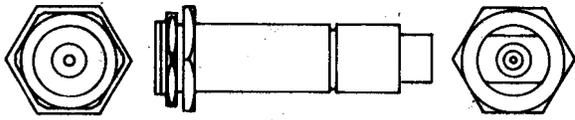

Fig. 7—507A Jack
2.07 507A: The 507A (Fig. 7) is a coaxial-type jack. This jack has coaxially arranged inner and outer contacts. One end is used with the 358A and similar-type plugs. The other end is designed for a solderless shield connection to the connection cable by means of a sleeve which is furnished as a loose part with the jack. When the jack is installed and the inner conductor of cable is soldered to the center of the jack, a low-pressure hermetic seal is obtained.